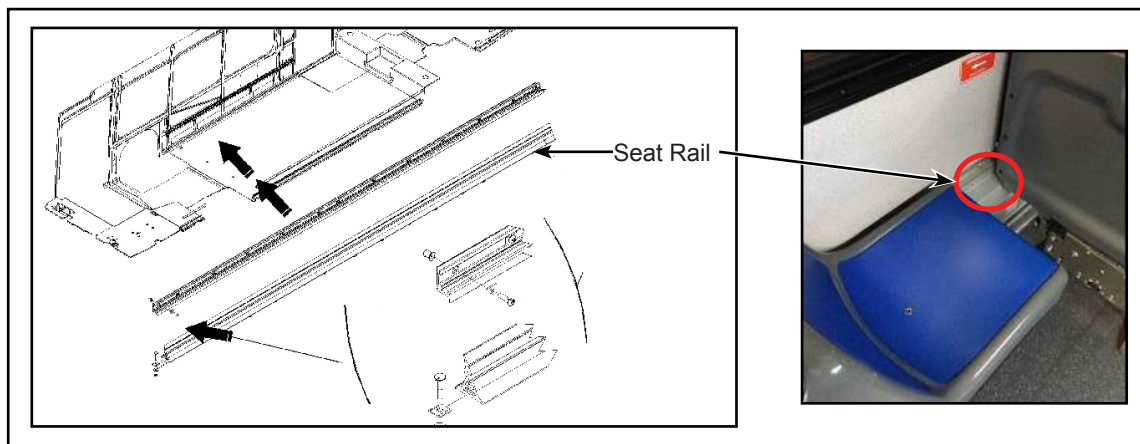

Figure 14 - Location of Seat Rail
- 2.2. Locate the hardware used to fix the seat rail on the wall (see Figure 14).